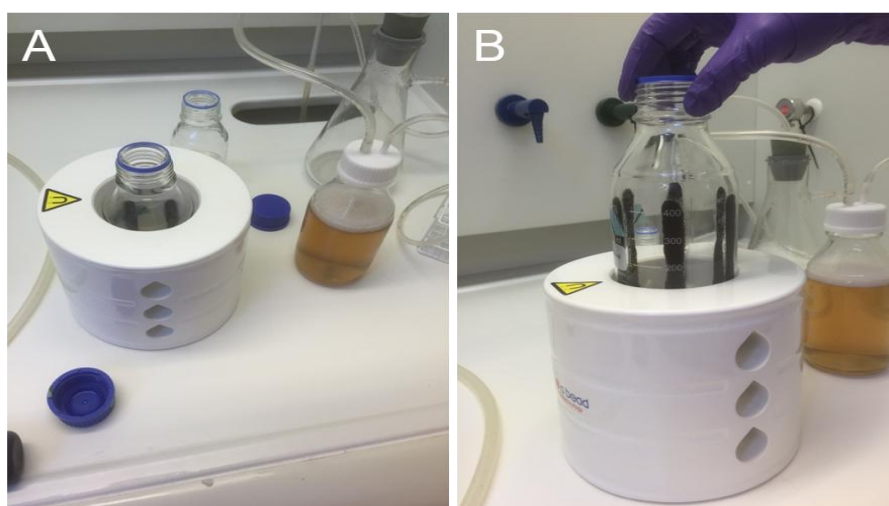

Fig 2. (A) Removal of solution from the sample bottle to the safety bottle. (B) Black rims of MAGicBead particles after separation.
- Remove the solution by withdrawing liquid from the center of the bottle, using, e.g., a serological pipette connected to a water suction device or a vacuum pump, with a clean safety bottle between (Fig 2). If beads are accidentally withdrawn, they can
Note: A safety bottle should be inserted between the pipette and the suction/vacuum device (Fig 2). The safety bottle enables trapping of beads escaping from the sample vial. The beads can then easily be recovered from this bottle by magnetic separation.
- Remove the solution by withdrawing liquid from the center of the bottle, using, e.g., a serological pipette connected to a water suction device or a vacuum pump, with a clean safety bottle between (Fig 2). If beads are accidentally withdrawn, they can safely be recovered from the safety bottle.